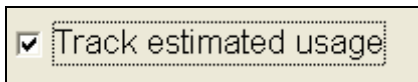

Figure 16.5.3C
Track Estimated Usage: This option is only available if you have **NO** flow meter assigned to this controller and you are **NOT** using (ET) or Budgets (Figure 16.5.3C).